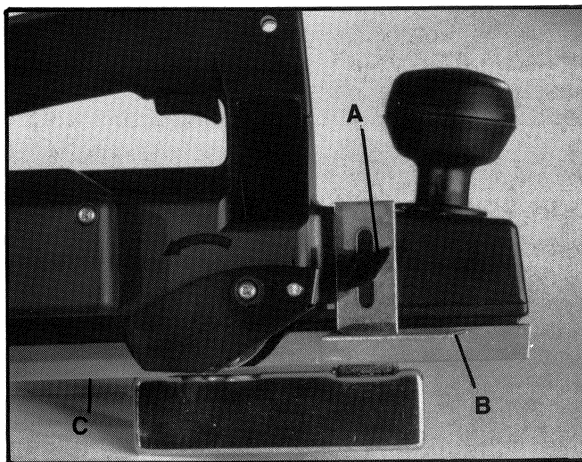

Fig. 7
Loosen knob (A) Fig. 7, and adjust depth stop so that the distance from its bottom surface (B) Fig. 7, to the bottom of the rear shoe (C) Fig. 7, is equal to the desired depth of the finished rabbet ( $7/8$ " maximum). Adjust the fence to expose a portion of the cutter equal to the width of the desired rabbet. Set the depth adjustment knob to the depth of cut desired in each pass ( $1/8$ " maximum).